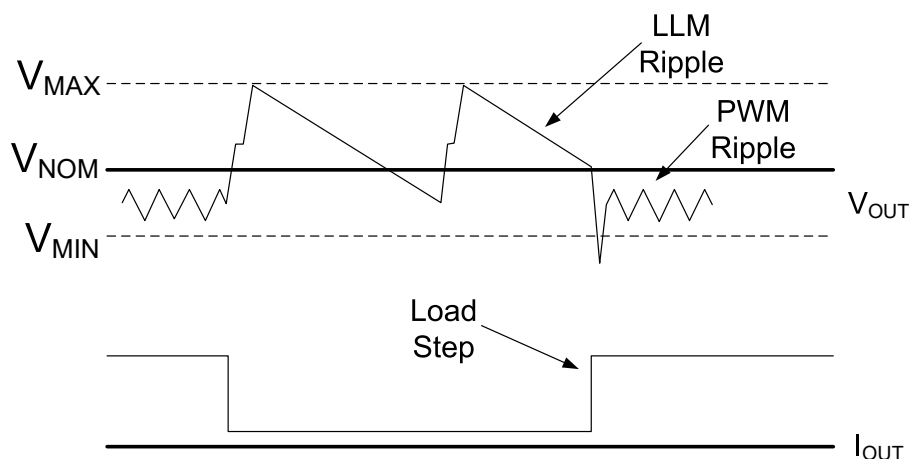

Figure 5. VOUT behavior in LLM operation
- (1) Step V_{OUT} up by approximately 1.0% above the nominal operating output voltage setting, V_{NOM} , and as low as -0.5% below V_{NOM} , and then
- (2) Shut down unnecessary circuitry, and then
- (3) Monitor V_{OUT} .
When V_{OUT} falls below V_{NOM} , the device will repeat (1), (2), and (3). The voltage step up, or pre-positioning, improves transient droop when a load transient causes a transition from LLM mode to PWM mode. If a load transient occurs, causing V_{OUT} to fall below the threshold V_{MIN} , the device will exit LLM operation and begin normal PWM operation. Figure 5 demonstrates V_{OUT} behavior during transition into and out of LLM operation. Many multi-mode DC-DC converters suffer from a condition that occurs when the load current increases only slowly so that there is no load transient driving V_{OUT} below the V_{MIN} threshold. In this condition, the device would never exit LLM operation. This could adversely affect efficiency and cause unwanted ripple. To prevent this from occurring, the EN6347QI periodically exits LLM mode into PWM mode and measures the load current. If the load current is above the LLM threshold current, the device will remain in PWM mode. If the load current is below the LLM threshold, the device will re-enter LLM operation. There may be a small overshoot or undershoot in V_{OUT} when the device exits and re-enters LLM.